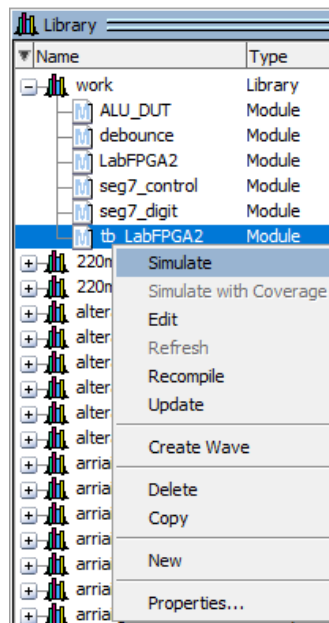

Figure 11. Start Simulation
29. Click on the **Library** tab and expand the library named **work**. You will see all compiled modules from the project files, including the testbench, top-level module, and any submodules. **Right-click** on **tb_LabFPGA2** and select **Simulate**, as shown in Figure 11.